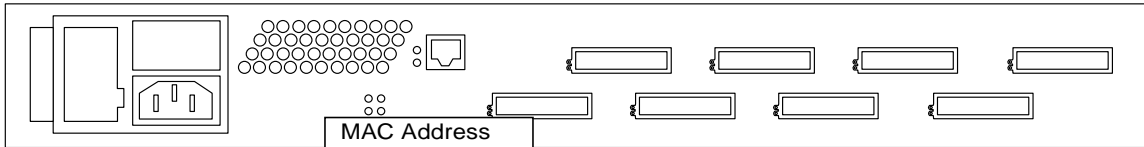
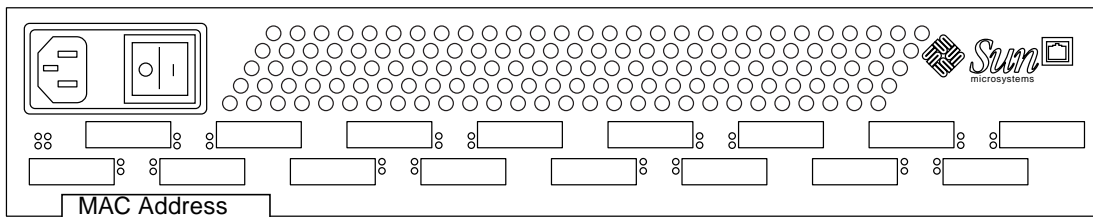

FIGURE 5-1 Sun StorEdge Network FC Switch-8 MAC Address Location
FIGURE 5-2 Sun StorEdge network FC switch-16 MAC Address Location
- MAC address _____ See FIGURE 5-1 and FIGURE 5-2 for the location of the MAC Address.